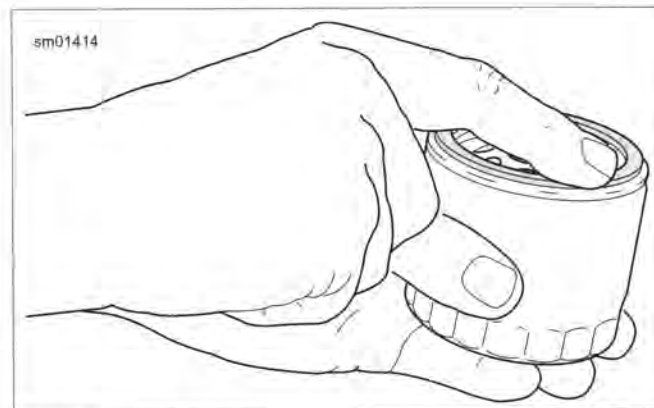

Figure 1-4. Lubricating New Oil Filter Gasket
6. See Figure 1-4. Install **new** oil filter.